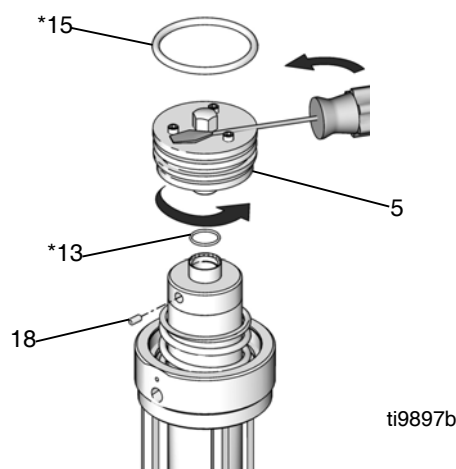

FIG. 11: Series A Air Valve
3. **Series A air motors only:** Loosen set screw (18) and unscrew air valve (5). If necessary to assist turning, wedge a screwdriver blade between the screw heads and the hex cap of air valve (5). Discard items 5, 13, 15, and 18. See FIG. 11.